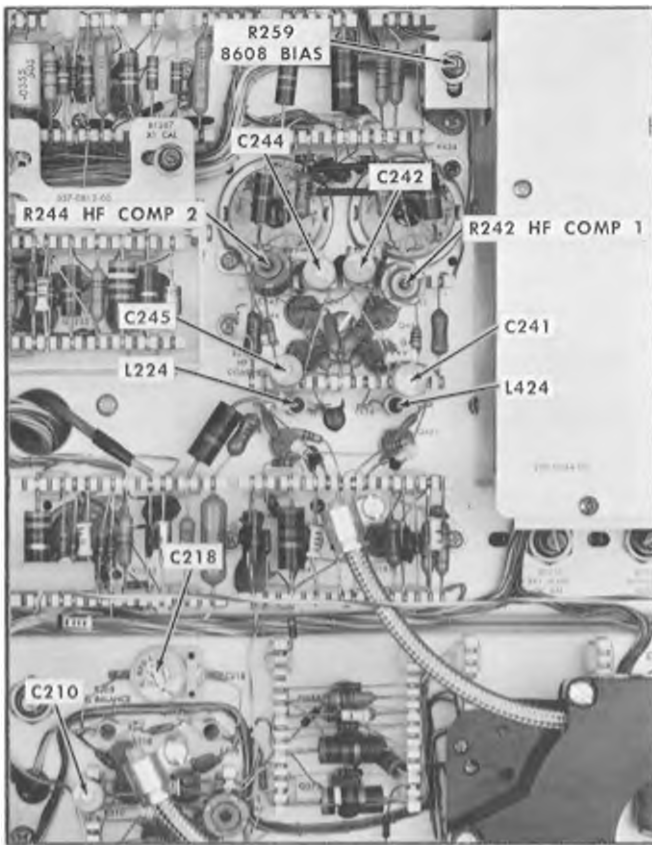

Fig. 6-59. Vertical Amplifier high-frequency compensation adjustment locations, right side.
u. Adjust R259 (see Fig. 6-59) so the front portion of the display waveform flat top is rolled off slightly. Readjust R259 so the front-portion of the flat top just becomes flat.